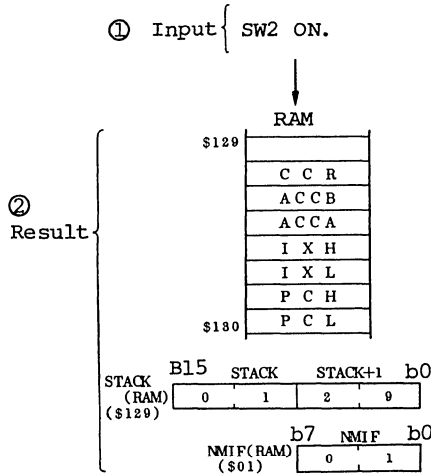

Figure 14-6. Example of LWPST Execution
- b. Example of LWPST execution is shown in figure 14-6. Contents of CPU registers, before NMI interrupt by switch 2 input, are saved and LWPST is executed. Value of stack pointer is saved in STACK (RAM) and \$01 is stored in NMIF (RAM).